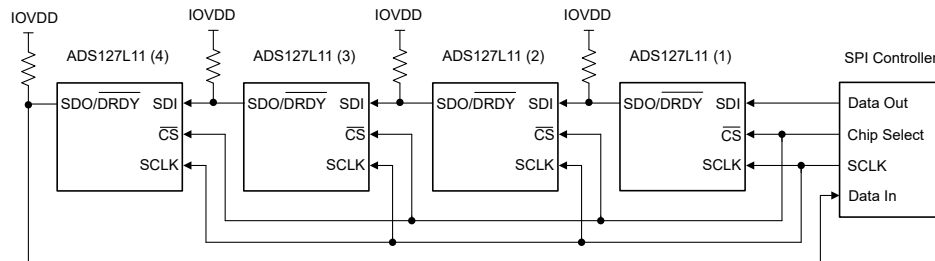

Figure 8-36. Daisy-Chain Connection
Figure 8-36 shows four devices connected in a daisy-chain configuration. The SDI of ADS127L11 (1) connects to the host SPI data out, and SDO/DRDY of ADS127L11 (4) connects to the host SPI data input. The shift operation is simultaneous for all devices in the chain. After each ADC shifts out the conversion data, the data of SDI appears on SDO/DRDY to drive the SDI of the next device in the chain. The shift operation continues until the last device in the chain is reached. The SPI frame ends when $\overline{CS}$ is taken high, at which time the data shifted into each device is interpreted. The SDO/DRDY pin must be programmed to data output-only mode.
Figure 8-38 shows the detailed input data sequence for the daisy-chain write register operation of Figure 8-36. 40-bit frames for each ADC are shown (24-bits of data, with the STATUS and CRC bytes enabled). Command operations can be different for each ADC. The read register operation requires a second frame operation to read out the register data.
Figure 8-39 shows the clock sequence to read conversion data from the device connection provided in Figure 8-36. This example illustrates a 32-bit output frame (24-bits of data, with the CRC byte enabled). The output data of ADC (4) is first in the sequence, followed by the data of ADC (3), and so on. The total number of clocks required to shift out the data is given by the number of bits per frame × the number of devices in the chain. In this example, 32-bit output frames × four devices result in 128 total clocks.